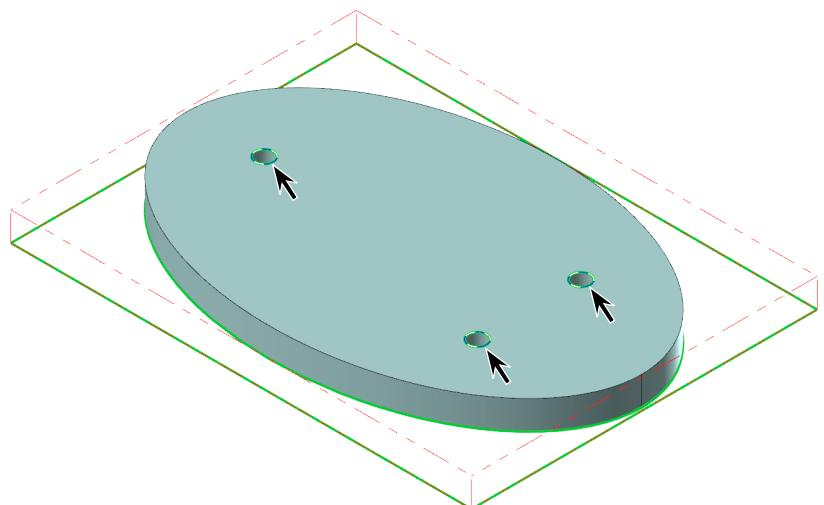

Fig. 94
Step 4. Click the 3 circles and click **End Selection**  (ENTER), Fig. 94.